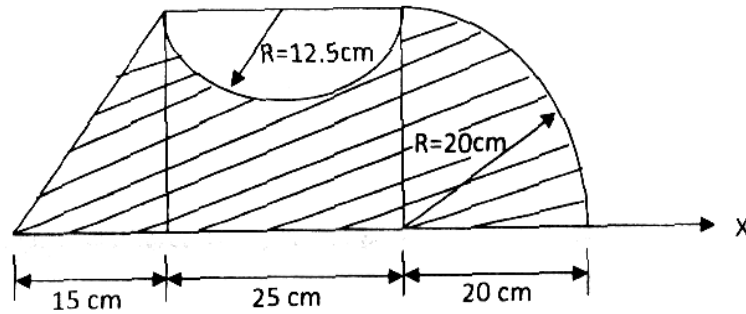

Fig. 6
5. (a) Find Moment of Inertia about X-axis For the shaded area shown in Fig. 6
6. (a) Find Centroid of the shaded area shown in Fig. 6 w.r.t. X-axis. 5